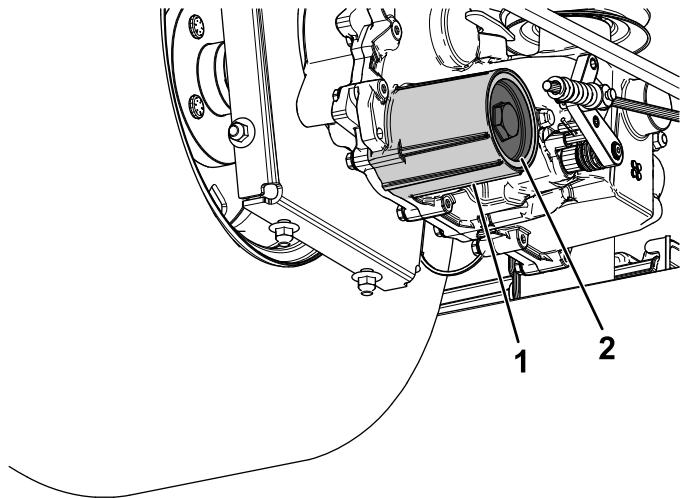

Figure 73
7. Remove the hydraulic-fluid filter cover from the transaxle to drain the fluid (Figure 73).